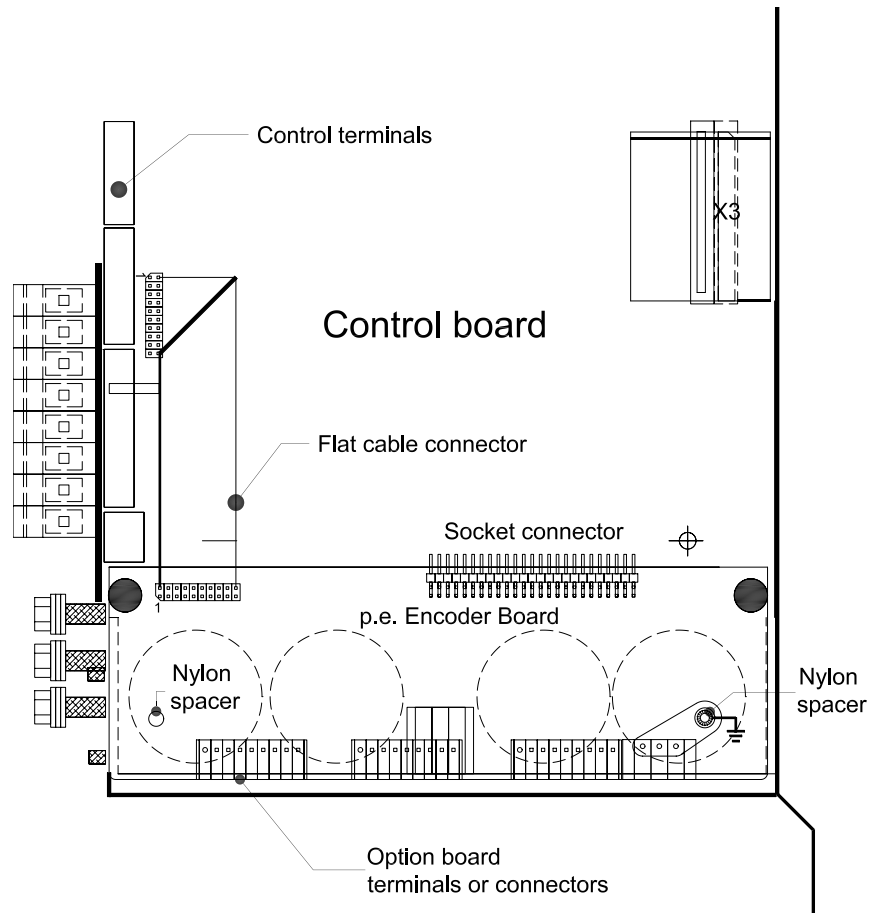

Figure 6.2
8. Using the supplied ribbon cable, make an additional connection between the pin connectors of the control board and the option card (see "Ribbon cable connection" in Figure 6.2). The side of the ribbon cable marked in colour must be plugged onto the PIN marked "1".